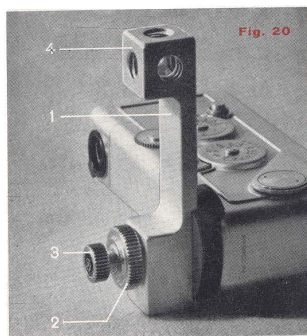

Fig. 20
(1 Figure 20). To do this begin by tightening buttons (2) and (3) to one another. Bring the attachment against the threaded
The flash attachment (bulb or electronic) must be screwed on one of the five threaded holes (4 Figure 20) on the upper part. The threads are all standard 3/8". Connection for 1/4".